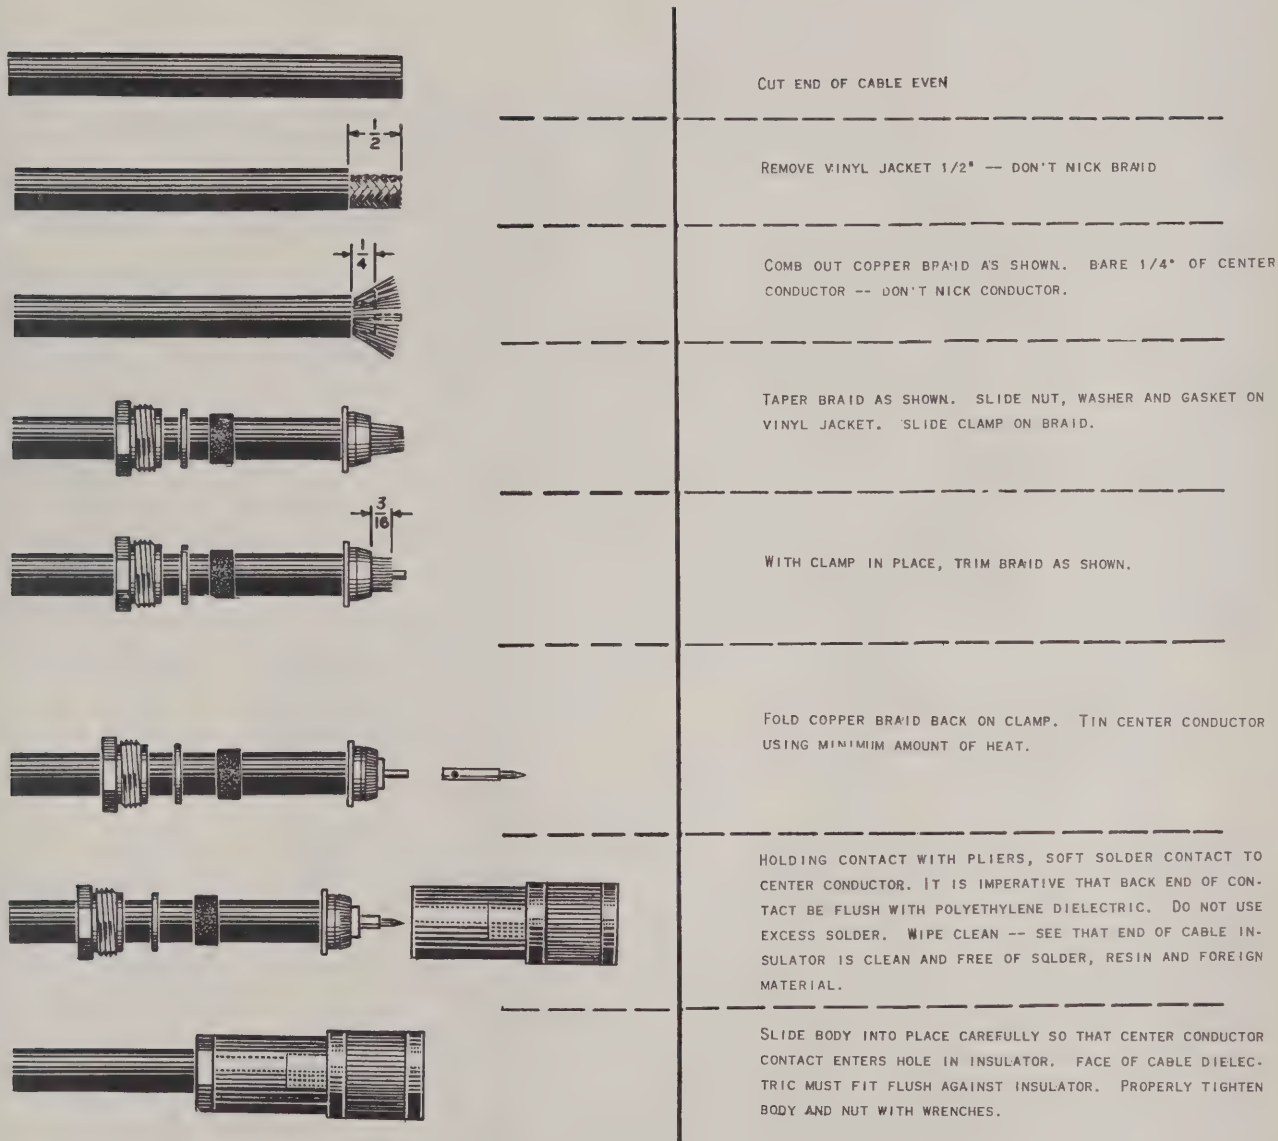

Figure 3-5. Cable Fabrication, UG-21B/U Plug
(2) PAN. (UG-88/U PLUG).—Use the same procedure as outlined for fabrication of I-F cable in the preceding sub-paragraph.
(3) EXT. OSC.—Use the same procedure as outlined for fabrication of I-F cable in sub-paragraph (1).
(4) ANT (UG-21B/U PLUG).—Obtain a cable having an outside diameter of $\frac{3}{8}$ inch and a characteristic impedance of 70 ohms, such as RG-12/U or equivalent, and fabricate cable to plug according to the instructions in figure 3-5. If armored cable is used, make certain that rear connector nut grips armor securely.